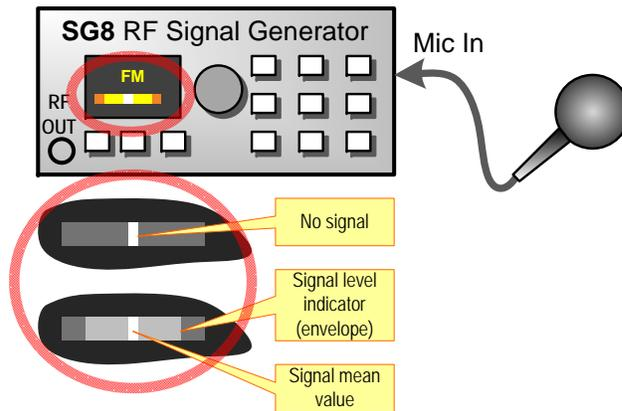

Figure 11: Mic In test setup
1. Connect the instrument as shown in figure 11.
4. Say something to microphone, graphical signal indicator should display the signal level. Indicator represents full ADC range. If indicator shows appropriate signal level (see fig. 11), the test is passed.